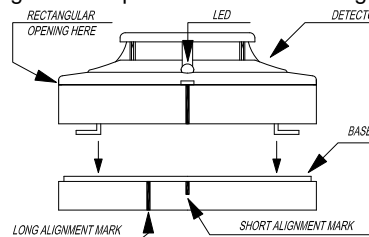

Fig.2 Mating detector head onto base
- Align the components as shown in Figure 2.